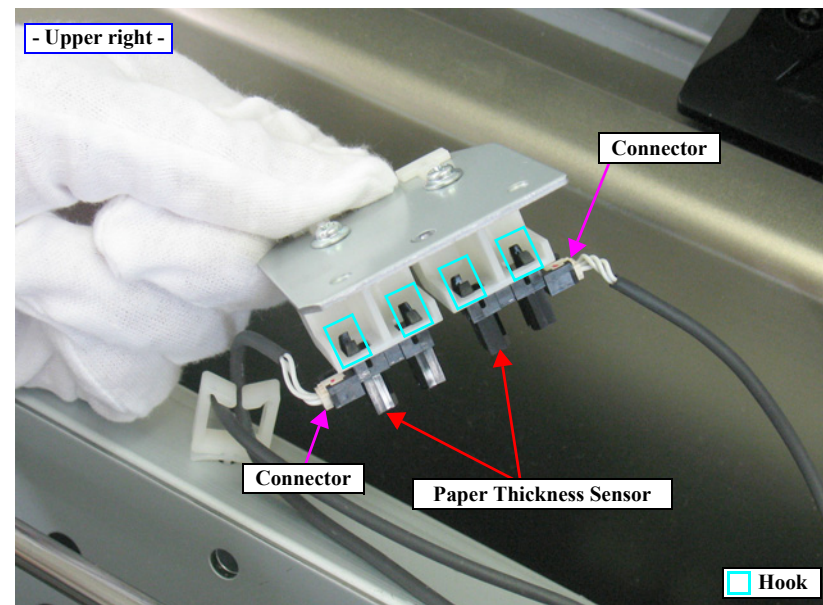

Figure 4-82. Removing the Paper Thickness Sensor
10. Disconnect the connectors from the Paper Thickness Sensors. *See Figure 4-82.*